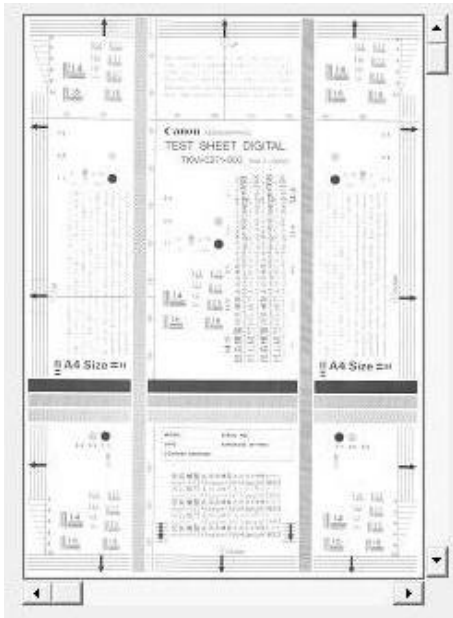

Figure 5-260
- 3) The scanned image is displayed. (Refer to Figure 5-260)